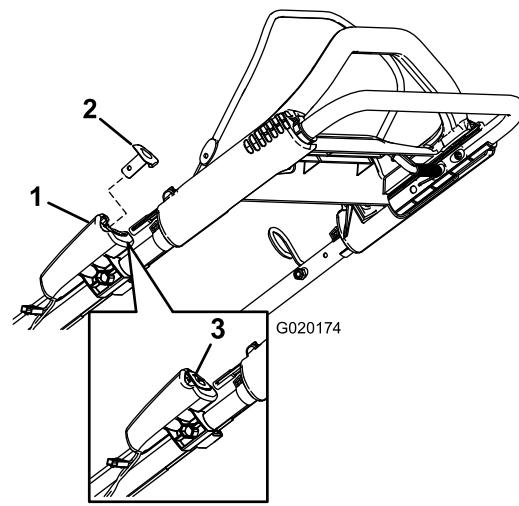
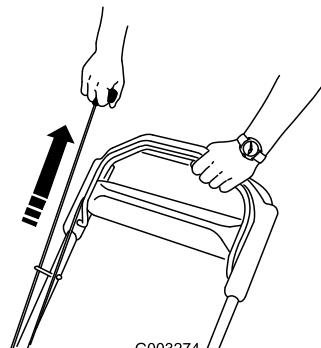

Figure 14
Figure 15
2. Push the electric-start button (electric-start model only) (Figure 14) or pull the recoil start handle (Figure 15).
Note: If the electric-start button has been removed, insert it in the electric starter; refer to Figure 14 (electric-start model only).